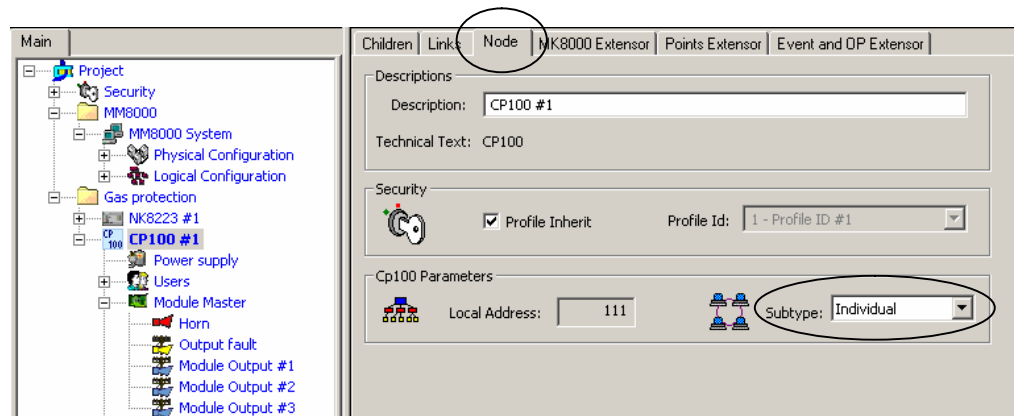

Fig. 11 Setting CP100 mode (subtype)
2. Click the Node tab (see Fig. 11).
You now have to define the CP100 internal structure to reflect the actual control unit configuration. By default, the CP100 structure includes the following objects (see also Fig. 11):